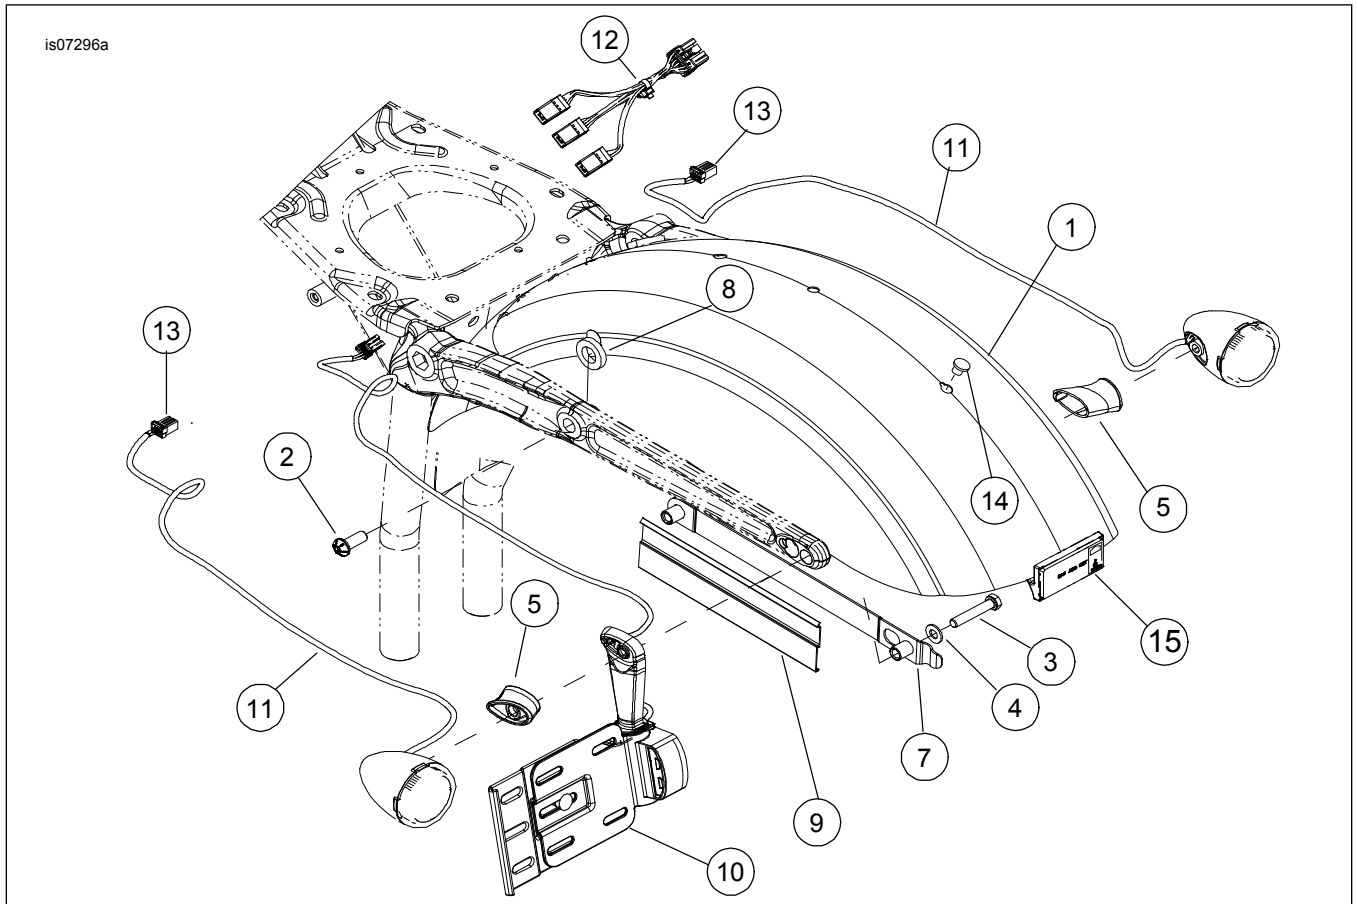

Figure 2. Remove Existing Side Mount License Plate Assembly
3. See Figure 2. Disconnect turn signal and license plate illuminator wiring from the rear lighting harness (12) located underneath the seat.
4. Remove left hand turn signal assembly (11)
5. Remove side mount license plate assembly (10) and discard.
6. Remove right hand turn signal assembly (11).
7. Remove fender mounting screws (2).
8. Remove fender mounting brackets (7). Remove plastic wire channels (9) and save.
9. Remove rear reflector (15) from the rear edge of fender.
10. Remove plastic cap (14) from rear hole in the fender.